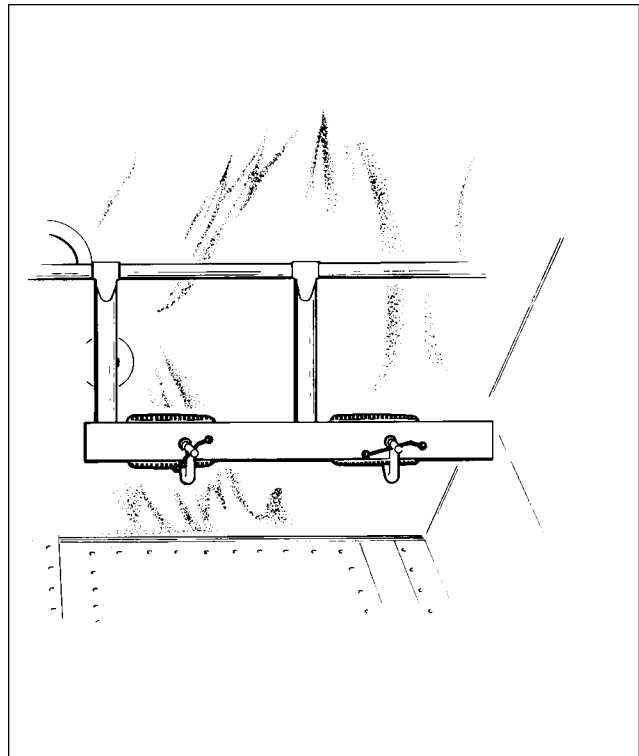

Figure 27-11. Clamping Rudder Pedals
- C. Clamp the rudder pedals to align in a lateral position as shown in Figure 27-11.